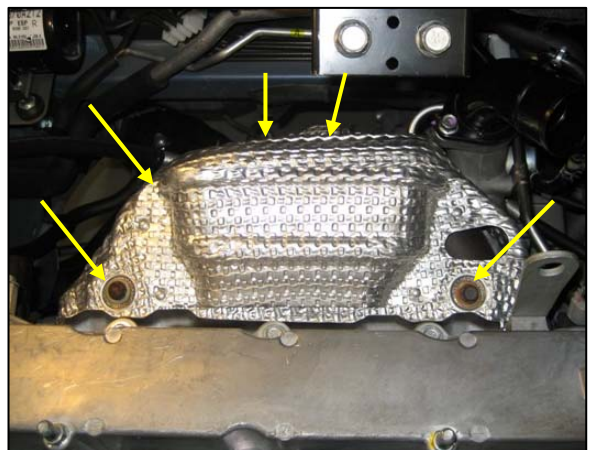

Fig. 9
10. Remove the heat shield covering the exhaust manifold and downpipe. These parts will be reused (5 bolts, 10mm socket). Bolt locations are shown by arrows in *Fig. 9*.